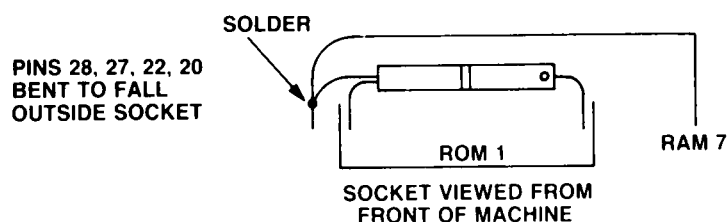

Figure 1. Mounting new 32K CMOS RAM in "ROM1" socket with four of its pins bent to fall outside the socket.
The 8K expansion sockets for the NEC 8201 are incompatible with the standard 28-pin JEDEC 8K pin connections and cannot be used with the low cost 8K CMOS memory parts (eg, HM6264) for two reasons. Firstly, the 8201A RAM sockets use 0.7 inch wide pin spacing, and secondly, each one is decoded as four 2K banks. (The 8201-06 memory hybrid consists of four 6117LP memory parts.) However, the 8201A has a spare socket for a second 32K ROM which does use standard JEDEC pin connections. By bending four of its pins so that they fall outside the socket (see Figure 1) prior to plugging in a 32K CMOS RAM (eg, 85256), the bank #2 32K can operate in the ROM socket. Vcc must be supplied from the standby power line as supplied to the other RAM sockets. RAM #7's lines for Vcc (28), WE-(25) and OE-(22) can be used by linking across to the 84256 pins 28, 27 and 22 respectively.